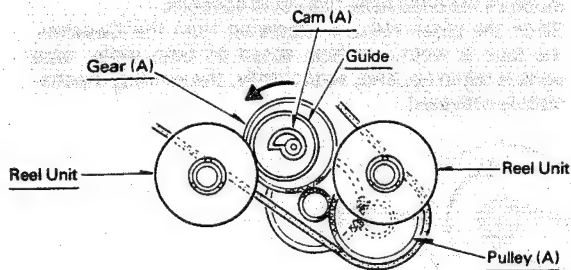

Fig. 8
1. Gear (A) always rotates in the arrowed direction via Pulley (A) and another gear. Cam (A) and the Guide are secured to Gear (A) (Fig. 8).